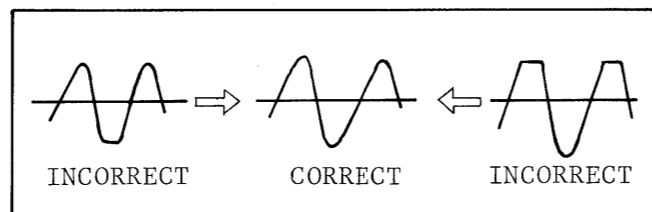

Fig. 41
- (1) Feed test signal (6Vp-p, 1kHz, SINE) to TP8 (CPU BOARD).
- (2) Connect oscilloscope to TP1.
- (3) Adjust BIAS VR1 (CHORUS BOARD) so that top and bottom portions of waveform are not clipped. (Fig. 41)
- (4) Reconnect oscilloscope to TP2.
- (5) Adjust BIAS VR2 (CHORUS BOARD) so that top and bottom portions of waveform are not clipped. (Fig. 41)